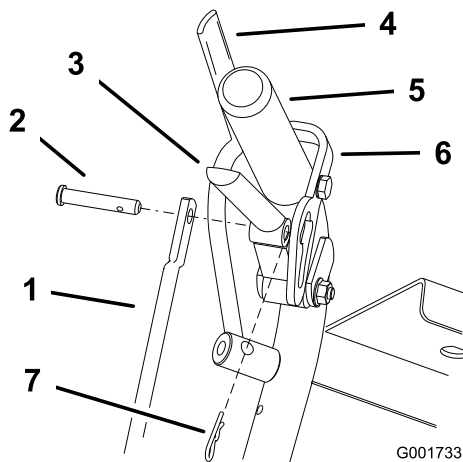

Figure 36
1. Adjust the rod length by releasing the drive lever and removing the hairpin cotter and clevis pin (Figure 36). Rotate the rod in the rod fitting (Figure 36).
4. Install the clevis pin into the drive lever (Figure 36).
6. Install the hairpin cotter between the drive levers and neutral locks and into the clevis pins (Figure 36).